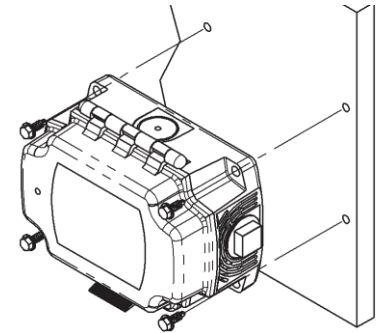

Figure 2: Rough Service Unit mounting
1. Mount the unit on a solid, non-vibrating surface 3 to 5 feet above floor level. Mount in a horizontal orientation with the enclosure hinge at the top as shown in Figure 2. Failure to do so may degrade the life of the sensor module. Do not mount near supply or return diffusers.